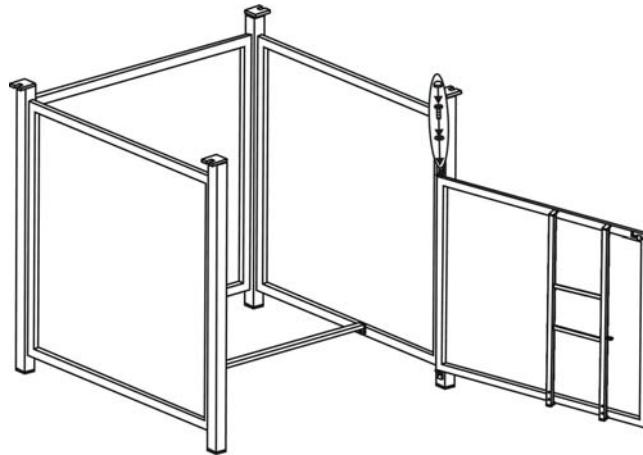

Figure 5
5. Put the door onto the bottom connector, guide the pin in the bottom connector into the hole on the underside of the door. Then guide the pin on the top connector into the hole in the topside of the door, use a 1/4"x15 mm bolt and washer to attach this top connector to the right side panel as shown in Figure 5. **Do not over tighten.**